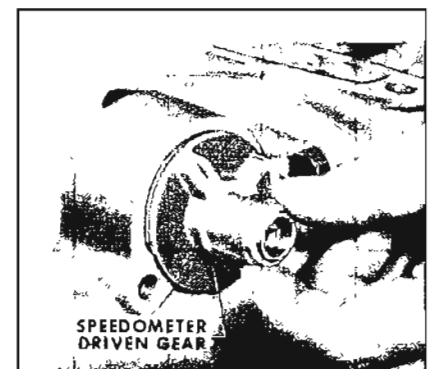

Figure 5-338
1. Install speedo driven gear assembly into rear bearing reatainer. See Figure 5-338.